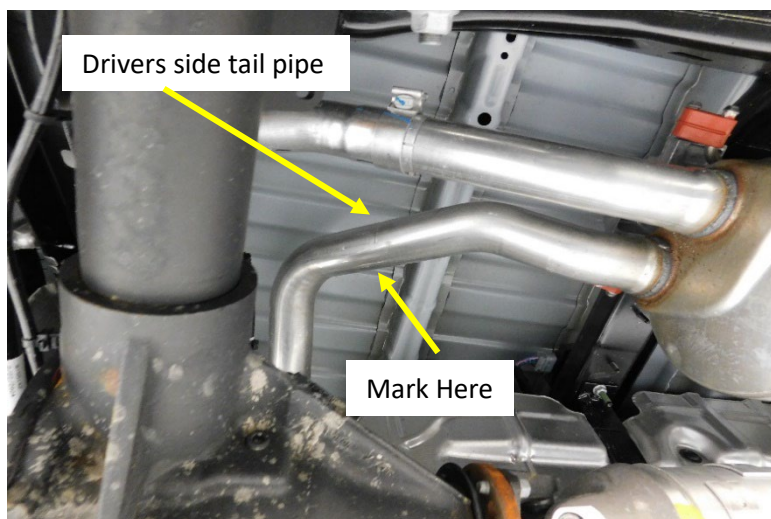
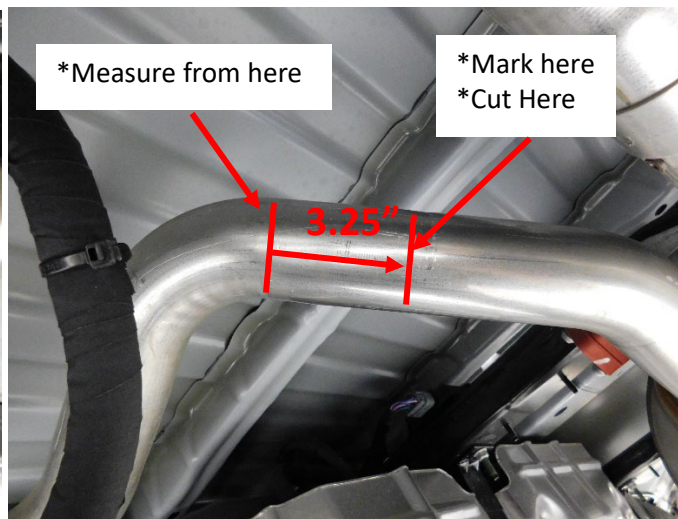

Figure.1
Figure.2
2. Cut the left (Drivers Side) tail pipe at the location in **Fig. 1/ Fig. 2**
- Fig.2 Note :** This cut can be made anyplace after the muffler , Cutting at this location will make returning the factory exhaust a simple task with a band clamp if it's required later.